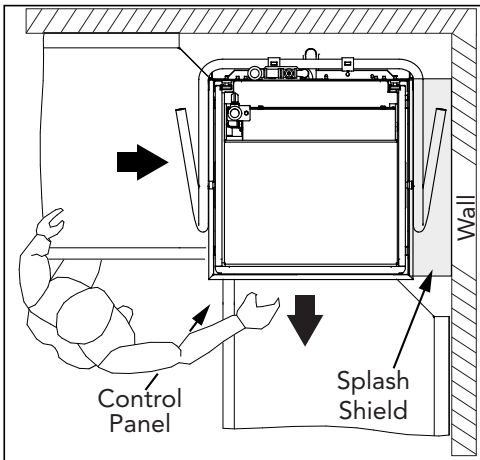

Fig. 1
1. The splash shield is installed on the right-hand side of the dishwasher, (Fig.1).